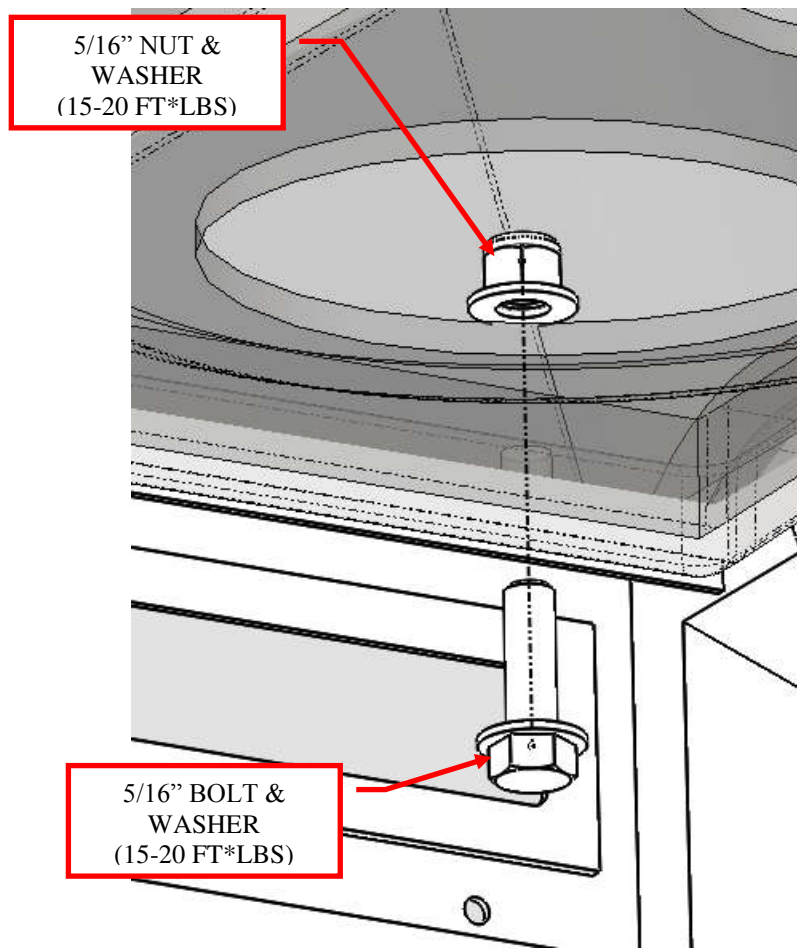

**Figure 3: Install the top on the cage.**
2. Using a few assistants, set the *Audio Shade* off-road top on the cage. The top is contoured such that the cage fits inside the grooves on the top. **Note: The top weighs up to 100 lbs. depending on your configuration. Since you will have to lift and reach, it is helpful to have up to 4 people for this step.** See Figure 3.
4. The top is mounted using the indicated holes in the factory cage. See Figure 3. Be sure the top is fully seated on the cage and in its final position. Drill a 3/8" hole through the fiberglass using the cage as a template at each location.